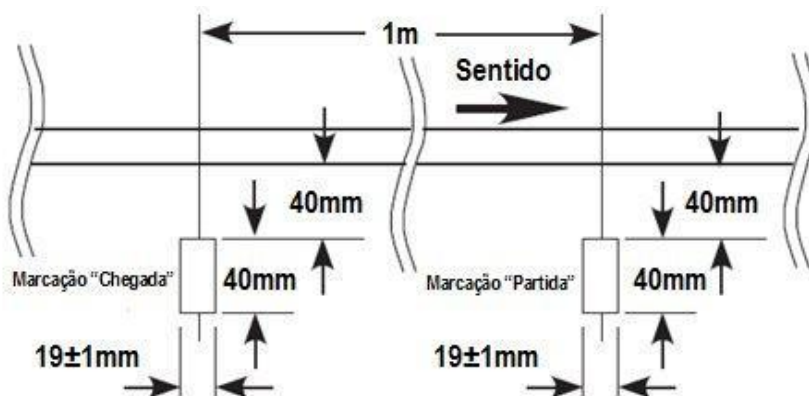

Figure 2: starting and finishing markings according to the direction of the course.
4.7 The starting line and finish line are located on a straight section of the course. The finish line is located one meter behind the starting line. There are markings on the right side of the line (in relation to the direction of the course) indicating the starting and finishing points (see figures 2 and 3).